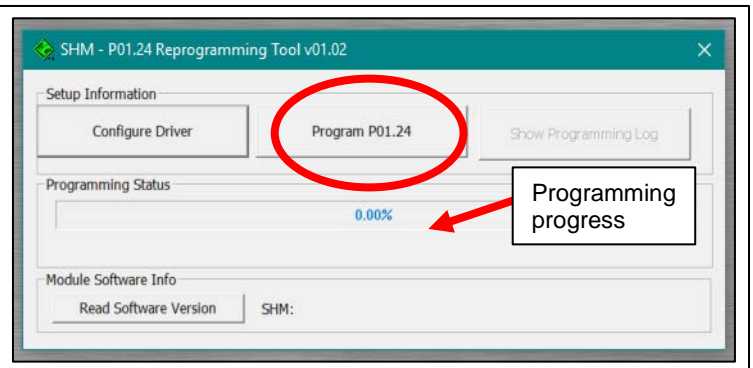

Figure 7: Configuring the Driver
9. Click *Program 01.24*. Programming will start. Progress will be shown in the *Programming Status* field. When complete, 100% will be shown and a message confirming success will be displayed. If you get an error message, select *Program 01.24* again to restart. See **Figure 7**.